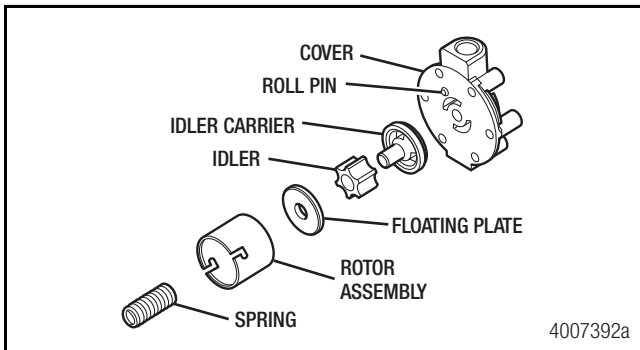

Figure 7.40
1. Install the floating plate, idler and idler carrier into the rotor body. Figure 7.40.